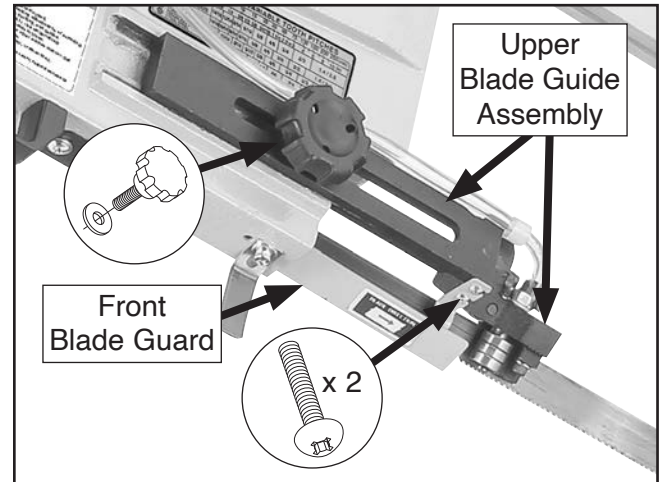

Figure 70. Upper blade guide removal components.
4. Remove (2) screws shown in **Figure 70** to remove front blade guard.
5. Remove guide post adjustment knob and flat washer (see **Figure 70**) to remove upper blade guide assembly.